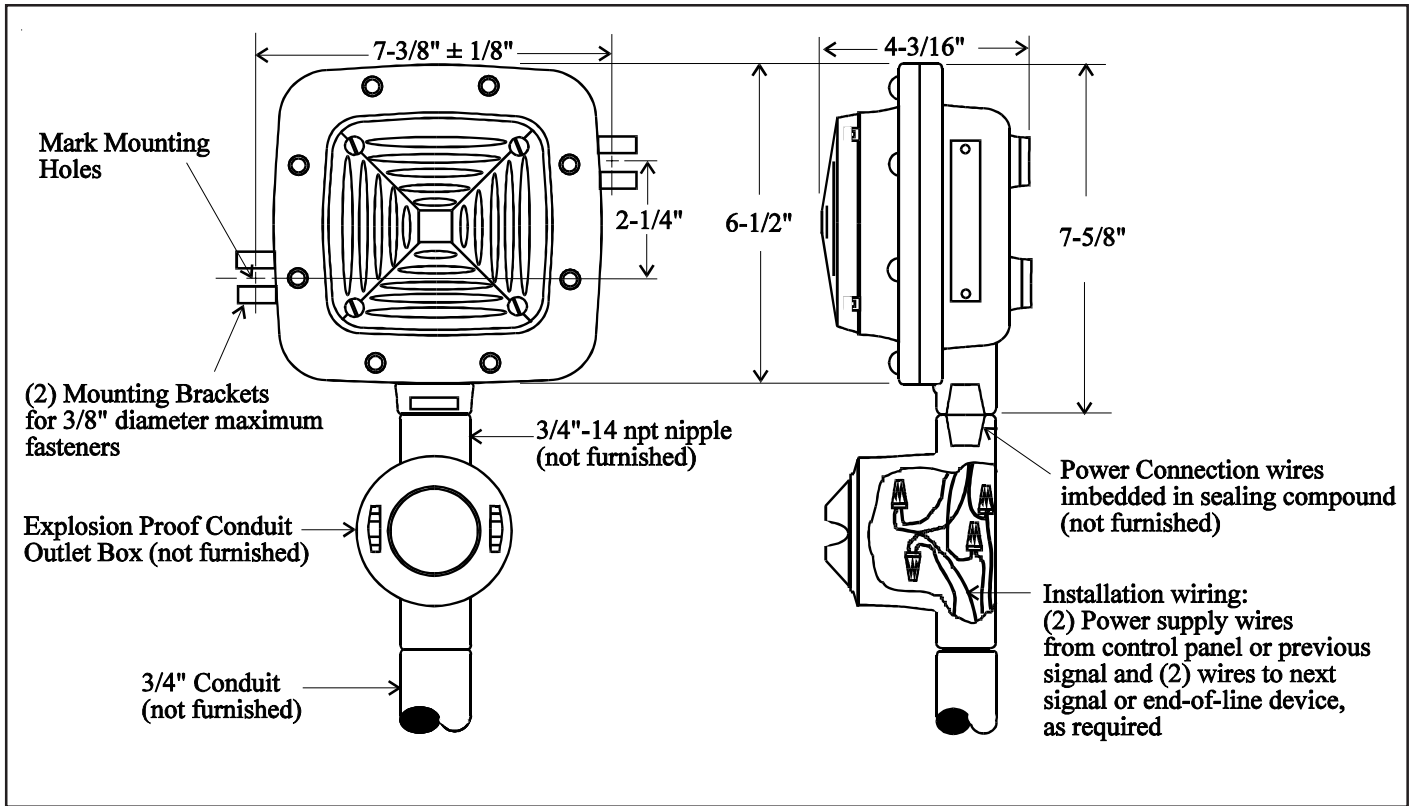

Figure 1. Signal Mounting Details
1. See Figure 1. Remove the cover from the conduit outlet box. Feed the two power supply wires from control panel or previous signal and the two wires to next signal or end-of-line device through conduit into the outlet box. Also, feed the horn's four wire leads through the nipple, which connects the horn to the outlet box, into the box. Secure the horn, nipple and conduit to the outlet box.
2. With horn placed against mounting surface, mark mounting hole positions for fasteners as per Figure 1. Install fasteners with washers through mounting brackets and secure unit to surface.